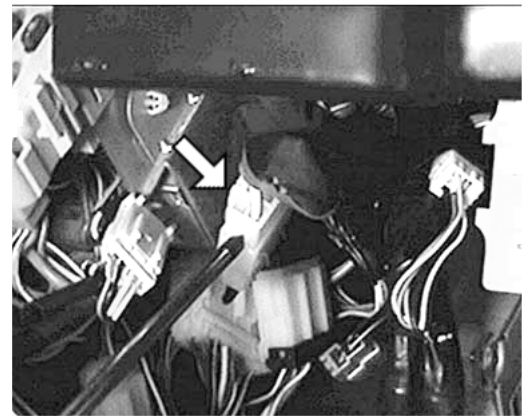

Figure 1
1. Locate the starter interrupt 6-pin (white housing) connector, which is located next to the right side of the fuse box. See Figure 1.